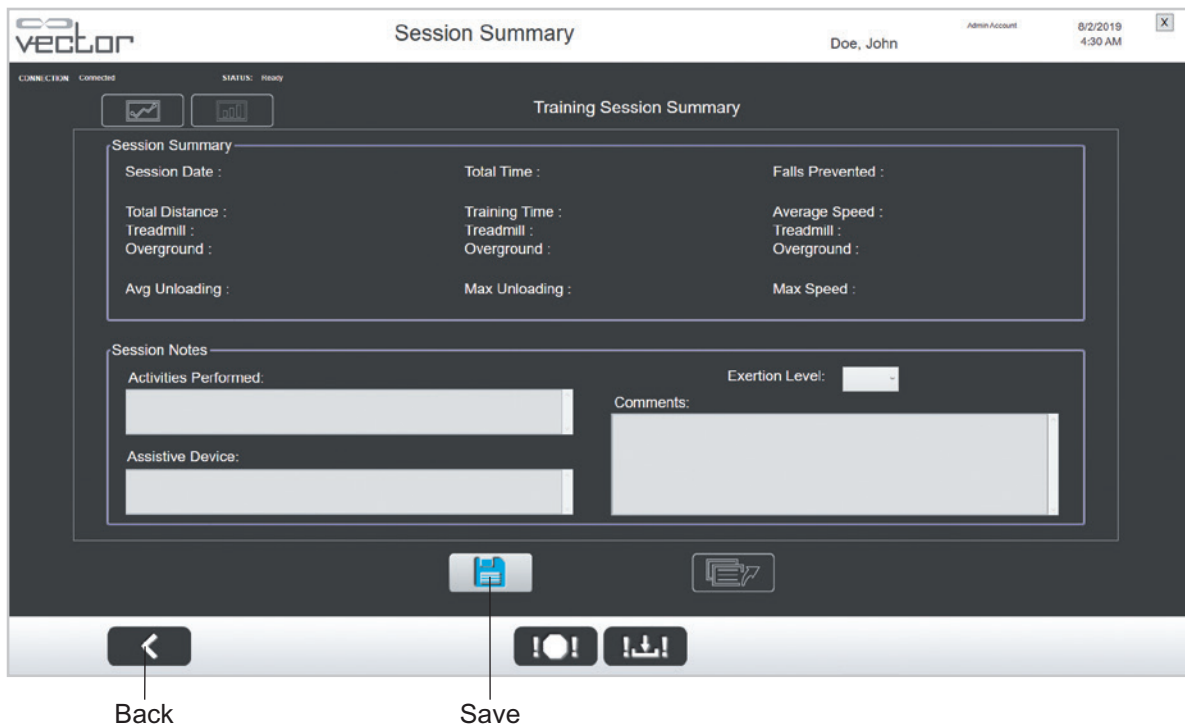

Figure 5-21: Session Summary Screen During Active Training Session
2. The Session Summary screen will open. See Figure 5-21.